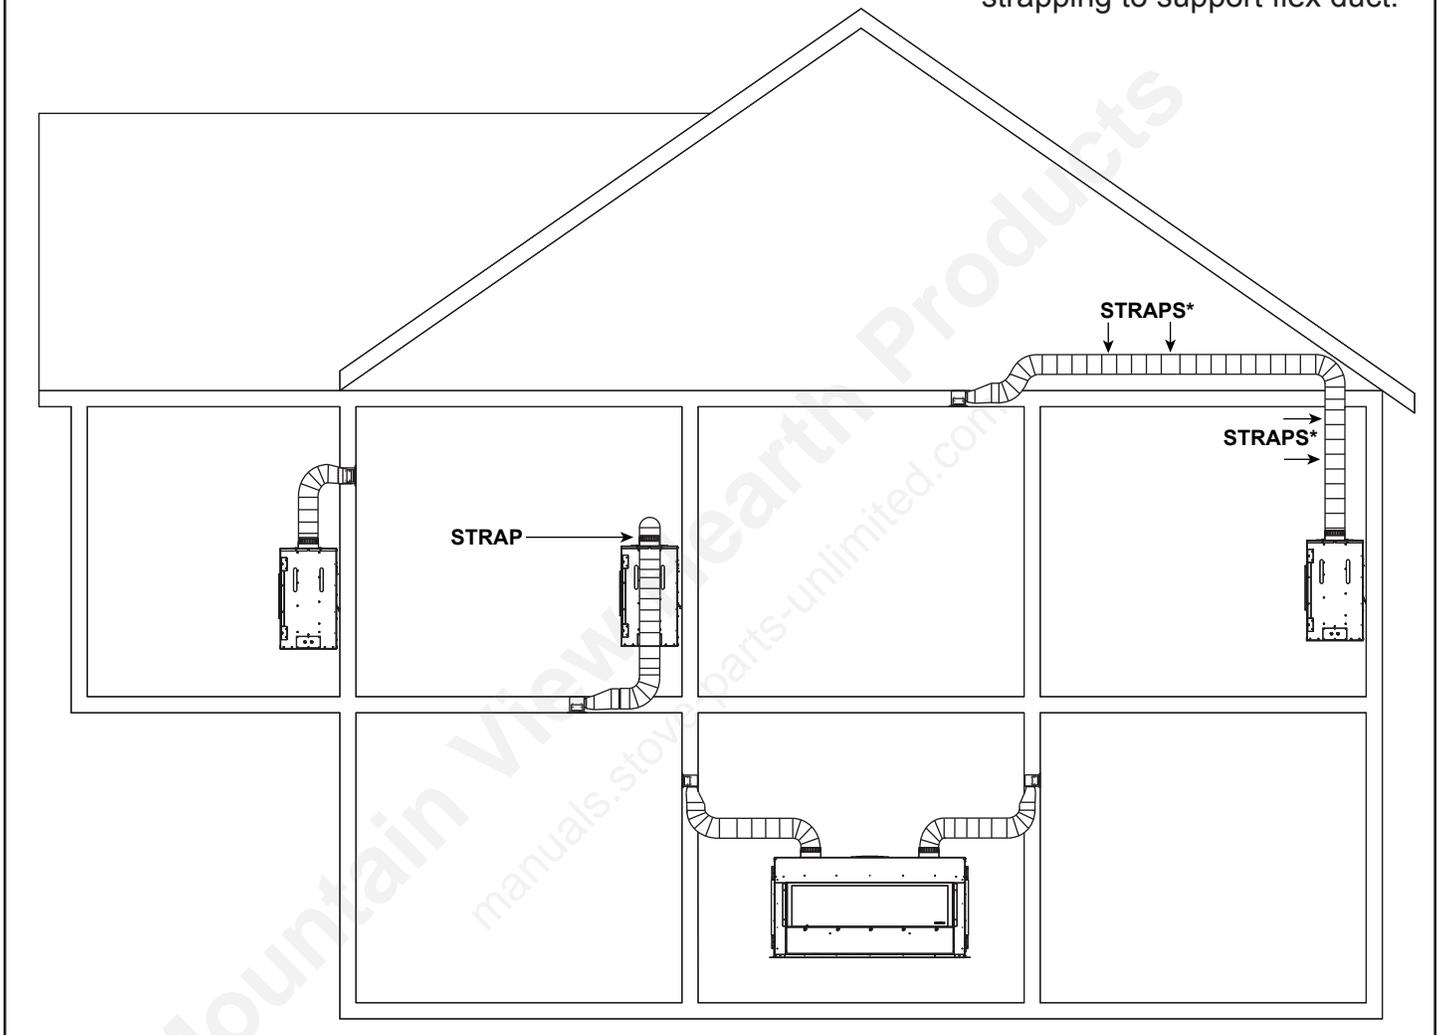

Figure 1. HEAT-ZONE-PRIMO Locations
- Mount fan housing in desired location. See Figures 1, 6 and 7.